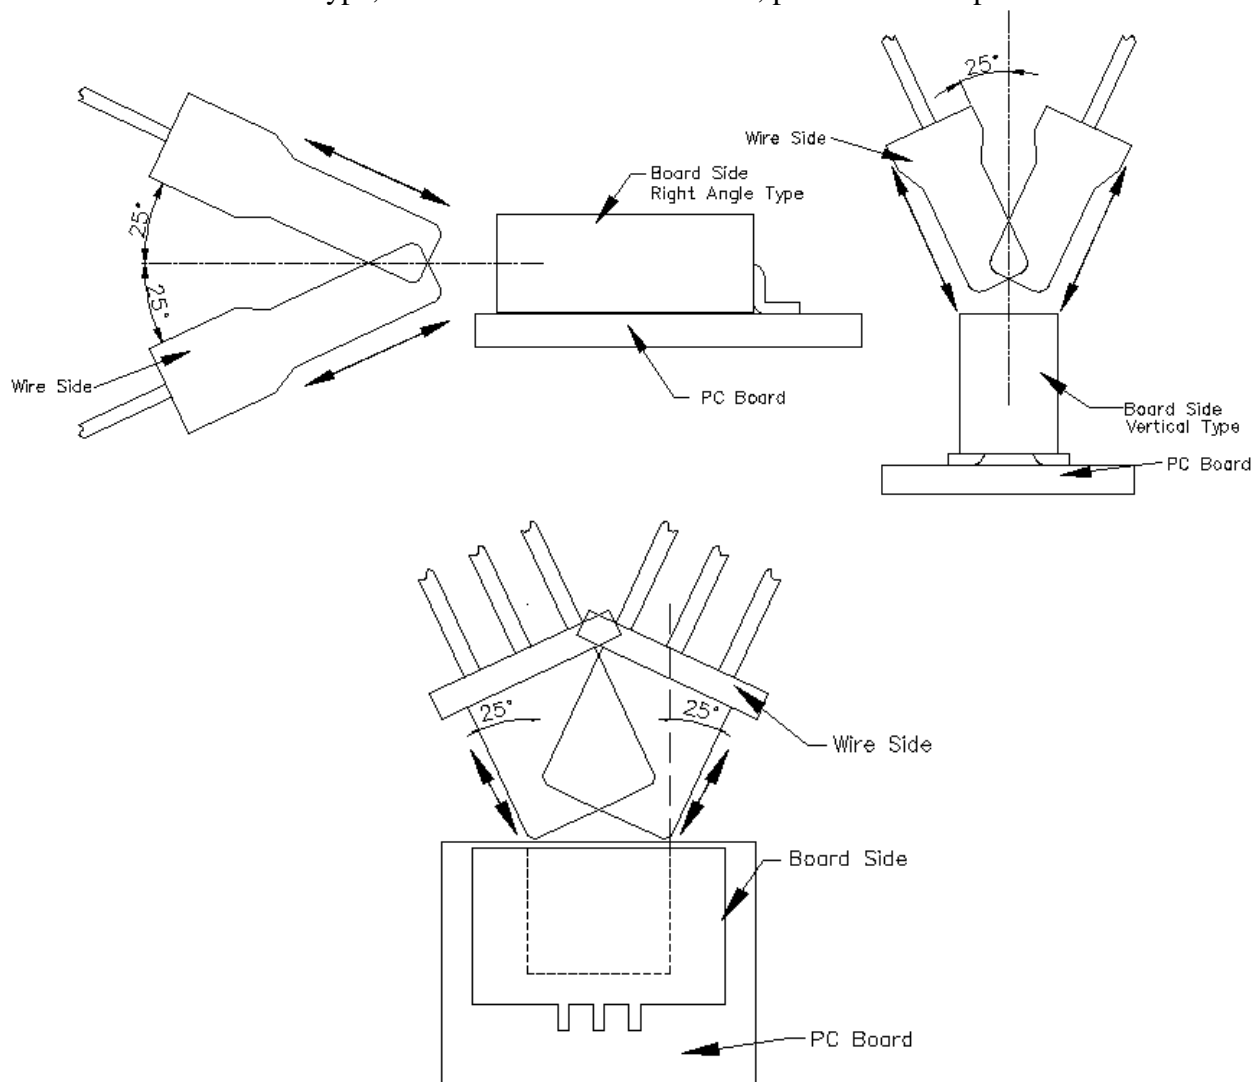

Figure 3.
- Do not insert and remove at an angle of  $25^\circ$  or greater. Doing so will cause contact deformation or case damage. (see figure 3).